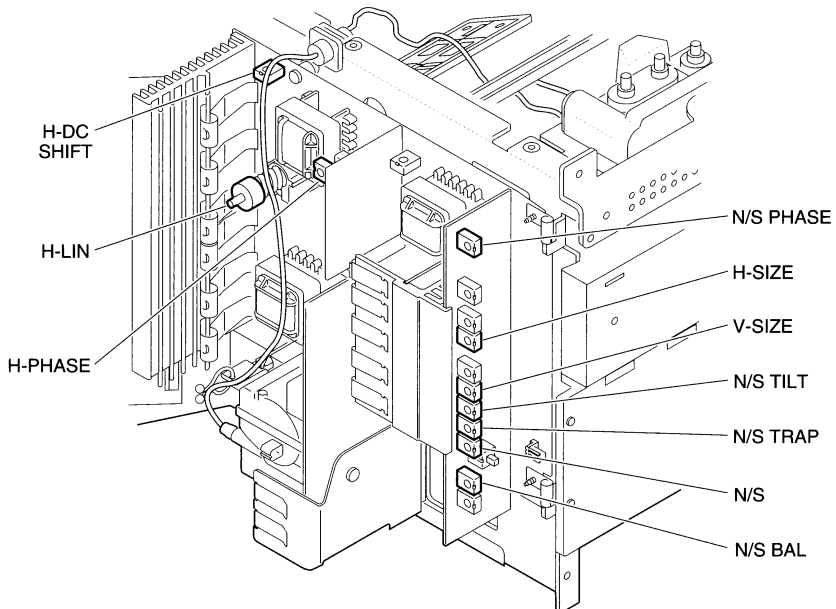

Figure 11 Vertical and Horizontal Adjustment Controls
2. FIGURE 11. Adjust the H-SIZE control until the raster is 371 mm (± 3 mm) or 14 11/16" ($\pm 1/8$ ") wide.
2. FIGURE 11. Adjust the V-SIZE control until the raster is 280 mm (± 3 mm) or 11" ($\pm 1/8$ ") high.
2. FIGURE 11. Turn the H-PHASE control counterclockwise until the left edge of the left bar begins to wrap at the left edge of the screen. Then turn the H-PHASE control
- FIGURE 11. Adjust the H-DC SHIFT control until the left and right bars are in the center of the screen.
2. FIGURE 11. Using the linearity adjustment tool and flexible ruler, adjust the H-LIN control until the rectangles on the left and right side of the raster are the same size. If necessary, readjust the H-DC SHIFT control.
2. FIGURE 11. Adjust the N/S PHASE control until the top and bottom horizontal lines are as straight as possible.
- FIGURE 11. Adjust the N/S TRAP control until the topmost and bottommost lines are parallel. This adjustment fine-tunes N/S PHASE.
2. FIGURE 11. Adjust the N/S TILT control until the centerline is horizontal.
2. FIGURE 11. Adjust the N/S control until the top and bottom horizontal lines are as straight as possible.
- FIGURE 11. Adjust the N/S BAL control until the top and bottom horizontal lines are as straight as possible.